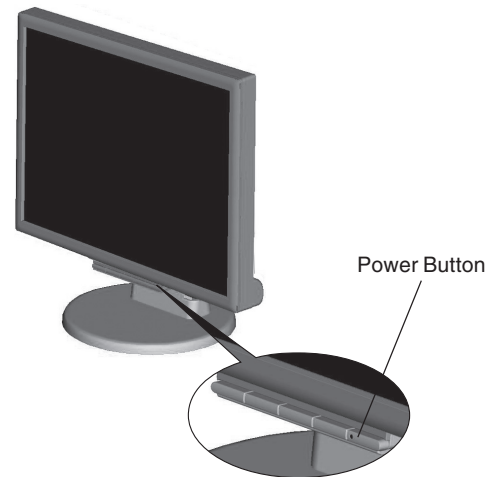

Figure C.1
7. Turn on the monitor with the front power button and the computer (**Figure C.1**).